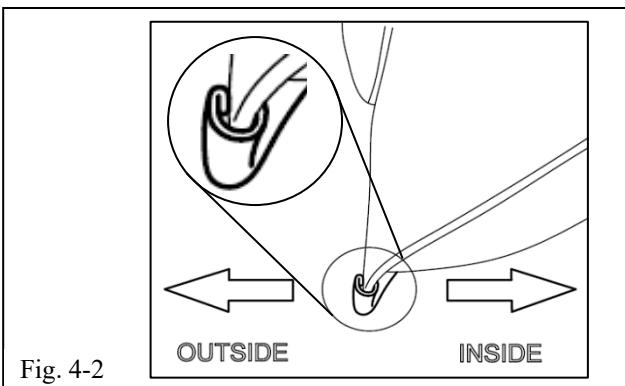

Fig. 4-2
- Ensure the door edge guard is placed in the correct orientation as shown (Fig 4-2).